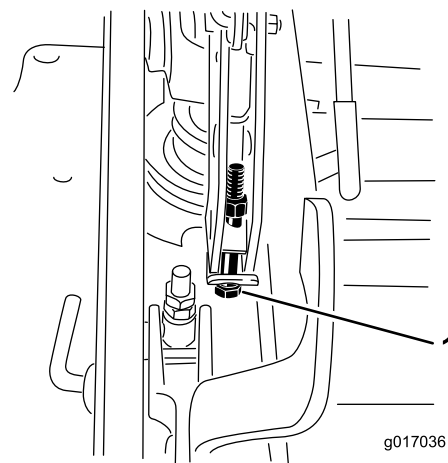

Figure 118
12. If the deck is too low, tighten the single-point-adjustment bolt by rotating it clockwise. If the deck is too high, loosen the single-point-adjustment bolt by rotating it counterclockwise (Figure 118).